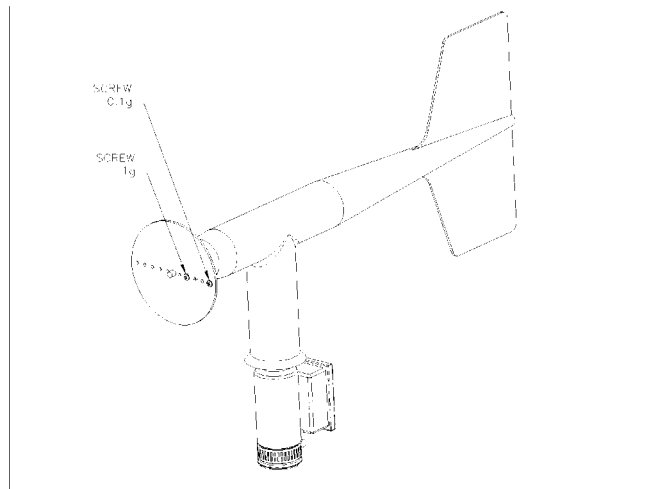

Figure 1-28. Wind Vane - Propeller Torque
- d. Hold shaft vertically as shown in Figure 1-28 and the bottom of shaft should rest on flat surface.